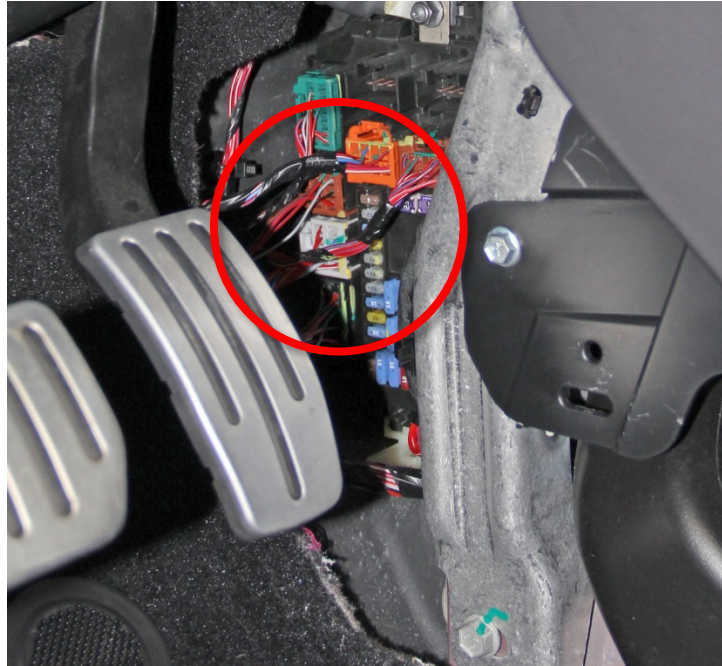

Figure 6
**NOTE:** The spare 12V power circuit is protected by a 15A fuse, located beneath the LH carpeted closeout panel (Figure 6).